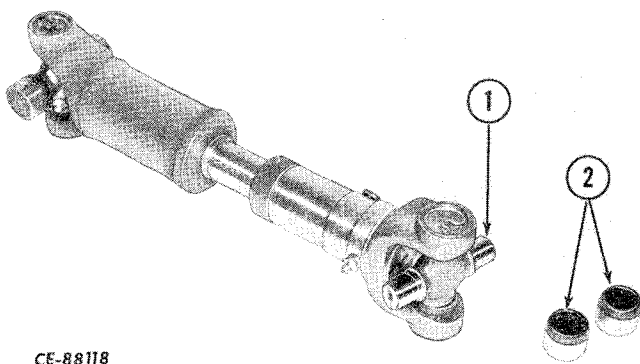

Figure 5-2
Remove the two bearings (2, Fig. 5-2) from the spider (1).